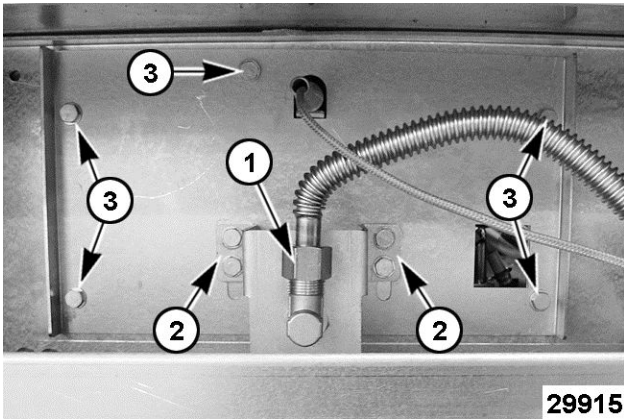

Fig. 6
- Remove burner flexible tubing (1, Fig. 6) from the burner orifice elbow.
- Remove 4 screws (2, Fig. 6) from orifice bracket.
- Remove 5 screws (3, Fig. 6) from burner support plate.